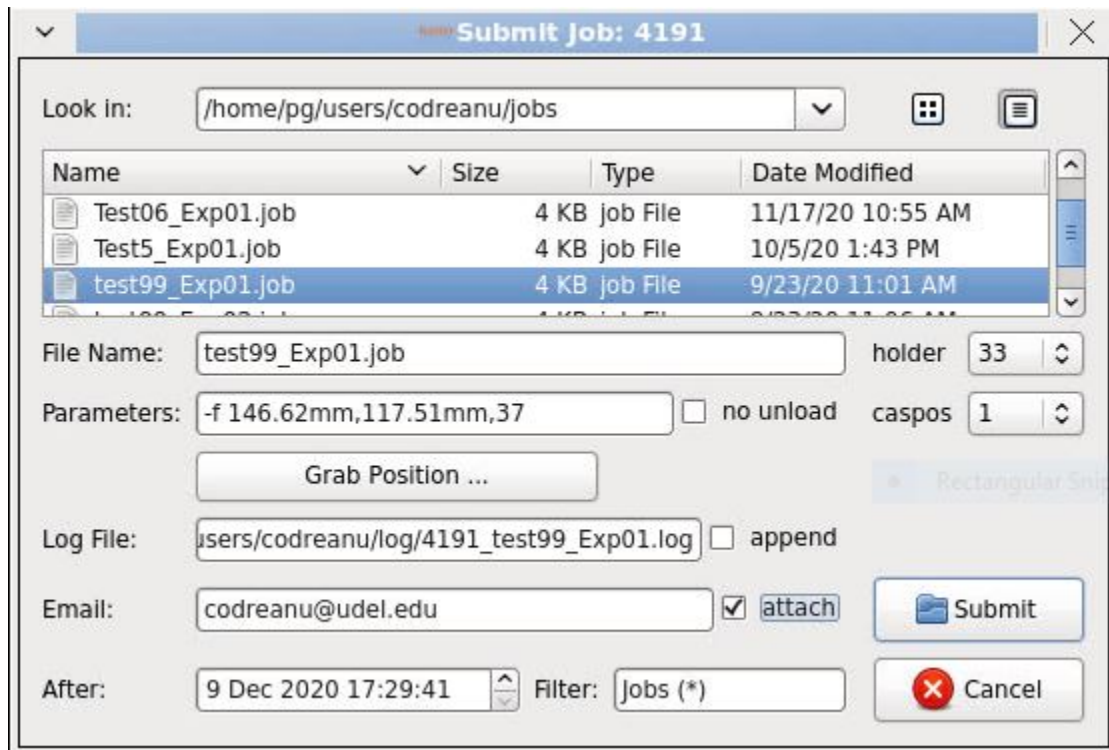

Fig. 4 Schedule a job.
- Click on the # at right of text in the cassette position that contains your holder. The window in Fig. 4 will open.